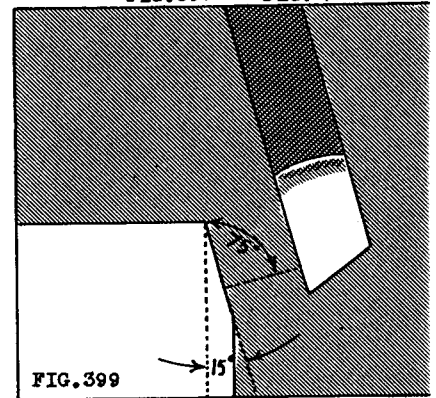
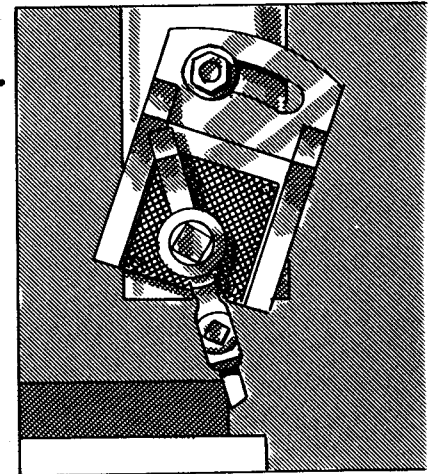

FIG. 399
FIG. 400
NOTE: If the angular surface forms a slight angle with the vertical, a side-cutting tool may be used (Fig. 400). For example, on the assumption that the surface makes a 15° angle with the vertical position, the head would be moved through 75° in order to feed the tool perpendicularly to the angular surface (Fig. 399). The head is graduated through only 60° for each side of the vertical position. Therefore, the following setup is more convenient.
1. Set the tool head in the vertical position (Fig. 400). (Refer also to page 91.)
2. Set the clapper box over to the right (Fig. 400). (Refer also to page 170.)
4. Select the tool illustrated in Fig. 399 and on page 166.
5. Hold the tool short and tighten it securely in the tool holder (Fig. 400).